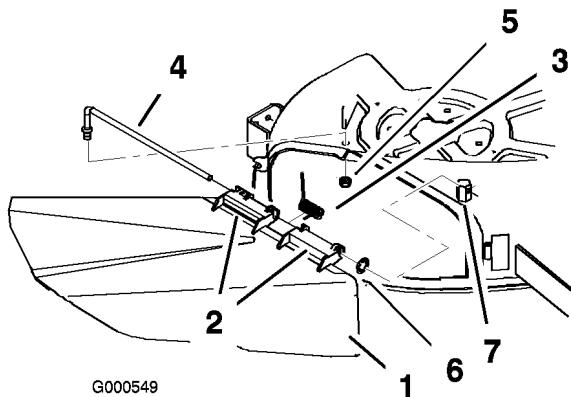

Figure 50
1. Locate items shown in Figure 50.
2. Remove the nut (3/8 inch) from the rod under the mower (Figure 50).
3. Slide the rod out of the short stand-off, internal lock washer, spring, and grass deflector (Figure 50). Remove the damaged or worn grass deflector.
4. Replace the grass deflector and internal lock washer (Figure 50).
6. Place the spring on the rod, with end wires down, and between the grass deflector brackets. Slide rod through second grass deflector bracket and internal lock washer (Figure 50).
7. Insert rod at front of grass deflector into short stand-off on deck. Secure rear end of rod into the mower with a nut (3/8 inch) (Figure 50).